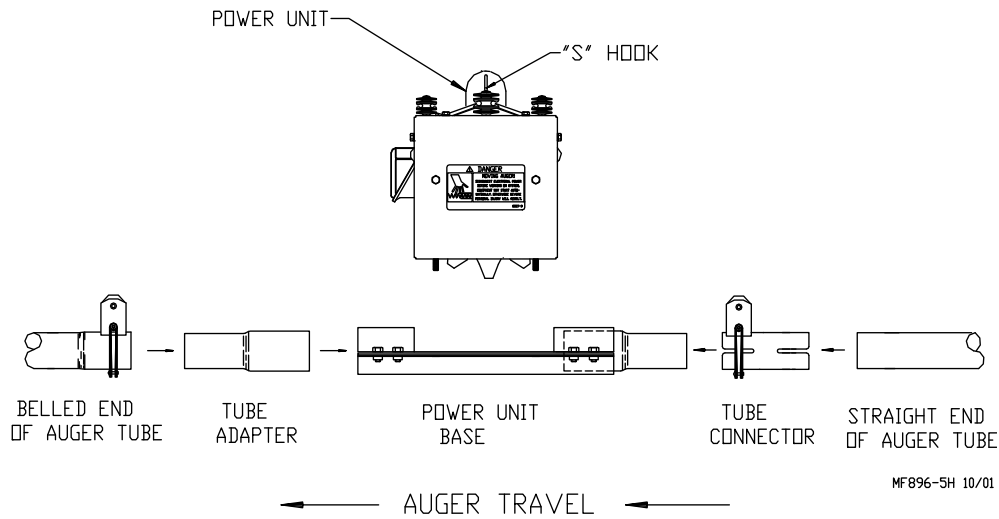

Figure 23. (Side View): Standing outside the loop
- Remove the Power Unit from the Base Connector Weldment and install the Base Connector Weldment, as shown in **Figure 23**.
Slide the belled end of the Tube Adapter into the incoming side of the Power Unit Base. Tighten the four bolts to secure the Tube Adapter to the Power Unit Base. See **Figure 23**.
- Insert the belled end of the next tube section over the Tube Adapter, as shown in **Figure 23**. Secure using a Clamp/Anti-Roost Bracket.